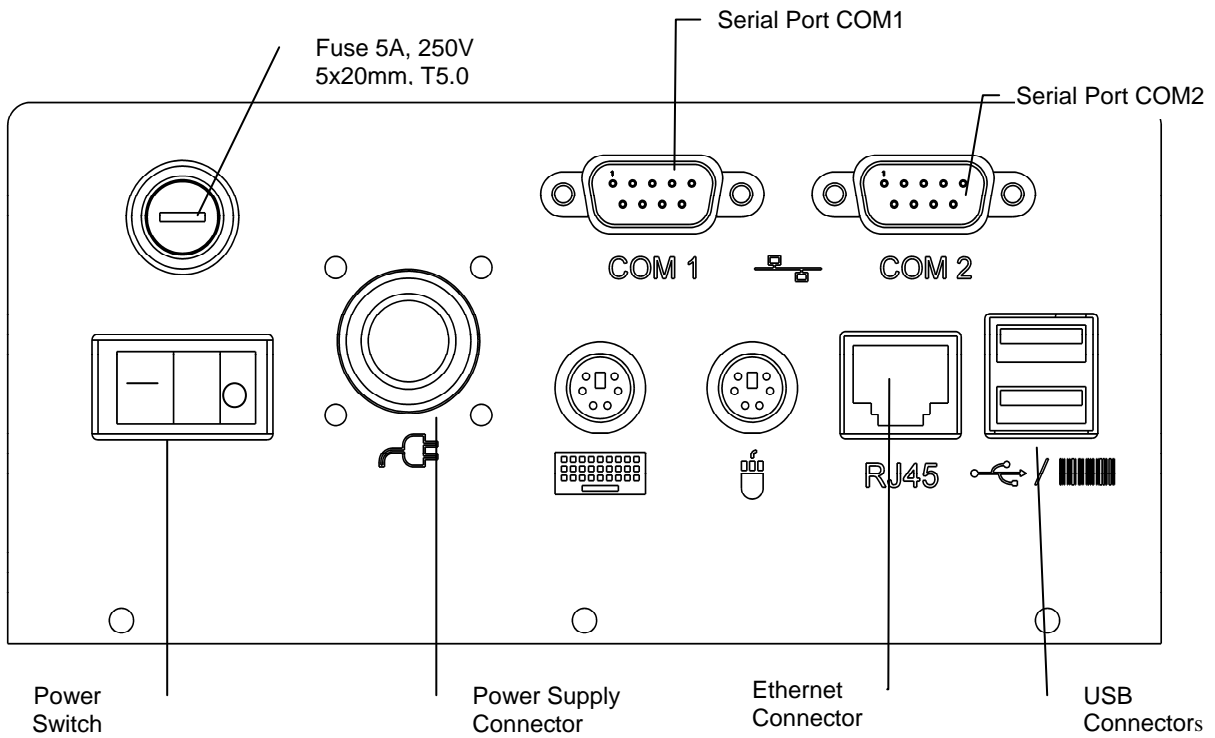

Figure 1.3 - Clarity Rear Connector Bulkhead
- Plug one end of the AC power cord into the power supply module. (Fig. 1.3)
- Plug the power supply module into the power socket on the rear connector bulkhead shown in Fig. 1.3.
The Clarity is equipped with a touch screen display. A mouse and keyboard can be installed on the rear bulkhead if desired. A mouse is recommended to have at all times for manual alignment of progressives, bifocals and trifocals. There are two USB ports that can be used as well as two PS-2 connectors at the rear of the machine. (See Fig. 1.3) If you install a PS-2 mouse or keyboard while the machine is ON, you will have to reboot the machine (cycle the power OFF and then ON) for the machine to recognize there is a device connected.